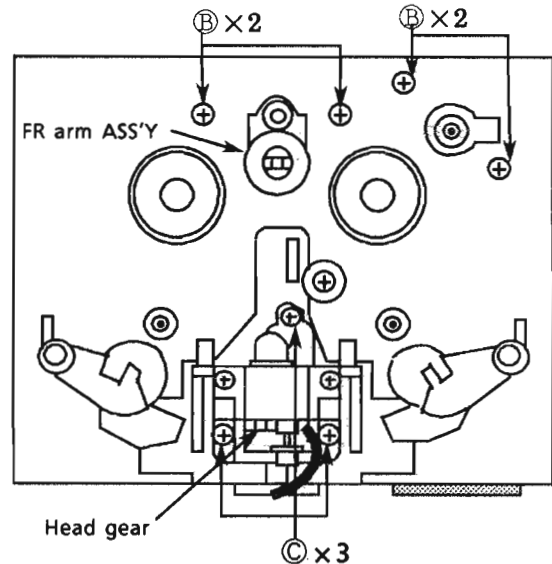

Fig 18
3. Remove the 3 screws (f) fixing the head assembly (Fig 18).
The direction of the head is changed with the head gear. When servicing, install the head gear according to the direction of the head. Refer to fig 18.